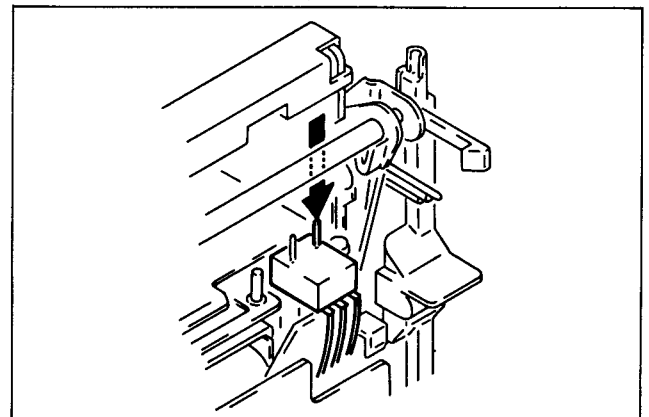

Fig. 1-59
- 5) Hold the safety pin of the RECOG switch (rec proof side) and tape it. press the REC button to set up the REC mode. (See Fig. 1-59.)